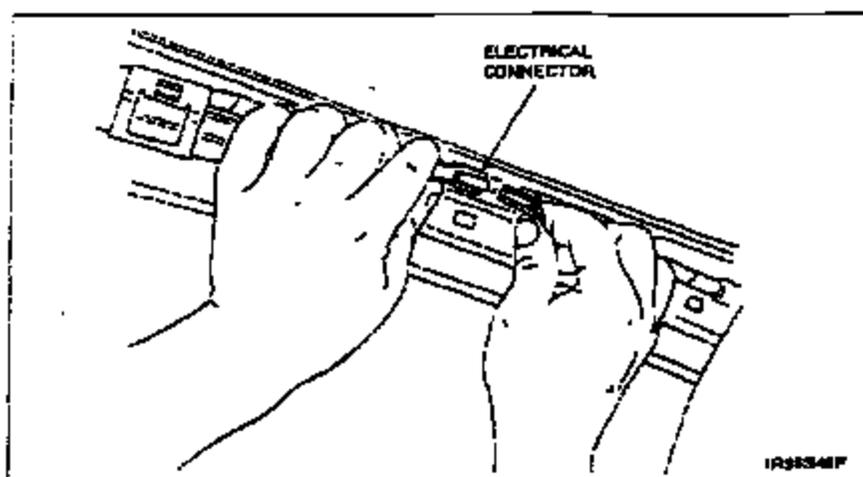

Figure 1
5. Disconnect the front limit switch electrical connector. See Figure 1.